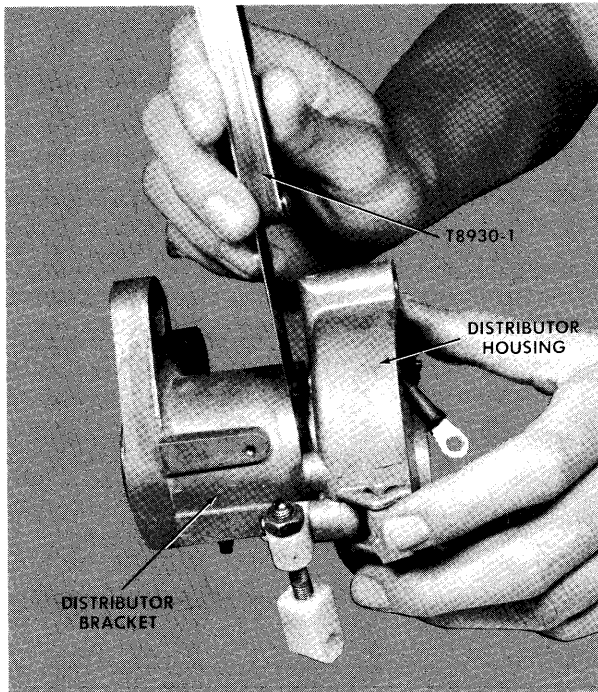

Figure 8 - Checking Clearance Between Housing and Bracket
- B. Using feeler gauge set (Special Tool T8930-1) determine clearance between distributor housing and distributor bracket as shown in figure 8. Clearance must not be more than .005 or less than .001.